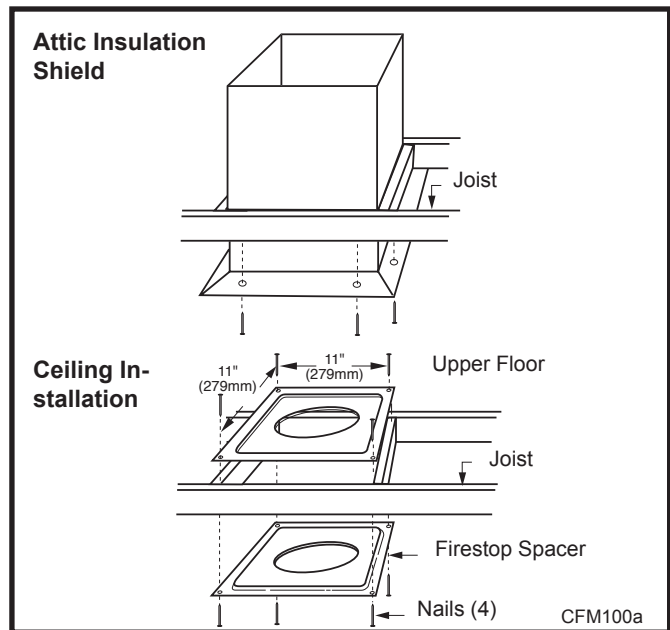

Fig. 32 Place firestop spacer(s) and secure.
6. Place firestop(s) #7DVFS or Attic Insulation Shield #7DVAIS into position and secure. (Fig. 32)